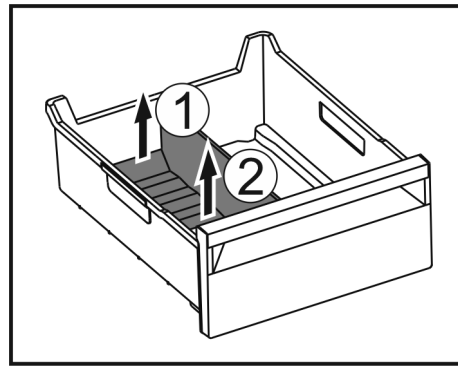

Fig. 231
- ▶ Lift the rear part of the ice compartment divider. Fig. 231 (1)
- ▶ Remove the ice compartment divider upwards. Fig. 231 (2)